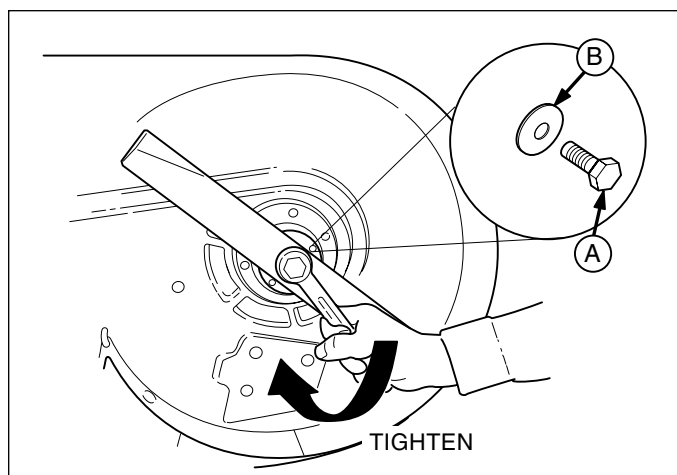

Figure 17. Installing The Blade
5. Reinstall each blade with the tabs pointing up toward deck as shown in Figure 17. The five (5) blade spacers, blade, washer and bolt must be reinstalled in the exact same order in which they were removed. Secure with a bolt and hex nut. Use a wooden block to prevent blade rotation and torque bolts to 70 ft.lbs. (94 N.m.).